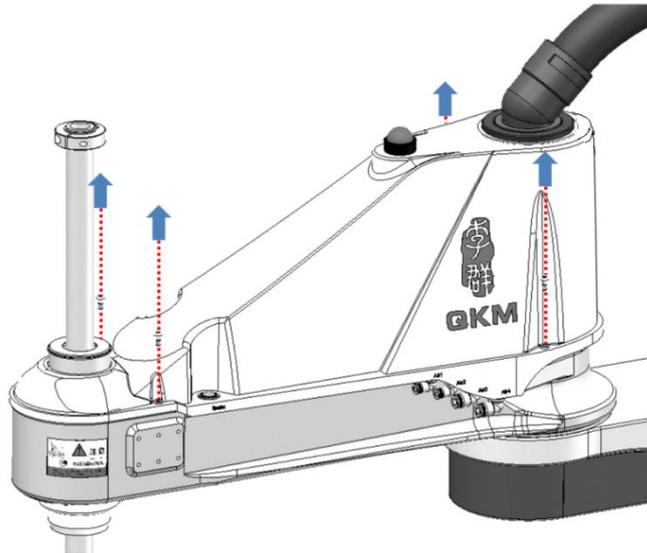

Figure 4-6 Removal of fastening screws
Step 2 Use 2.5 mm Allen wrench to remove the fastening screws from the robot cover, as shown in Figure 4-6.